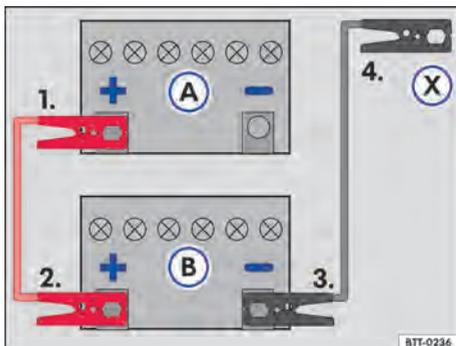

Fig. 186 Jump lead attachment diagram: discharged vehicle battery (A) and battery in the vehicle providing assistance (B).
Key for → Fig. 186:
Connect the jumper cable strictly following the sequence 1 - 2 - 3 - 4 → Fig. 186.
- Connect one end of the *red* jump lead to the positive terminal (+) of the vehicle with the discharged battery → Fig. 186(A) → ▲.
- Connect the other end of the *red* jumper lead to the positive (+) terminal of the assisting battery (B).
- Connect one end of the *black* jumper lead to the negative terminal of the assistance supply battery (B).
- Connect the other end of the *black* jump lead (X) to the vehicle with the discharged battery. Connect it to the screwed-in towing eye at the front, a solid metal component which is bolted on to the engine block, or to the engine block itself. However, do not connect it to a point near the vehicle battery (A) → ▲.